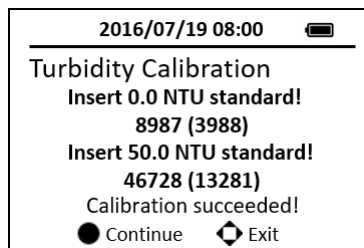

Figure 20. Turbidity Calibration-2
8. Press the **OK** key to continue high range turbidity calibration. If high range turbidity calibration not required, press any keys to exit. (Figure 20)